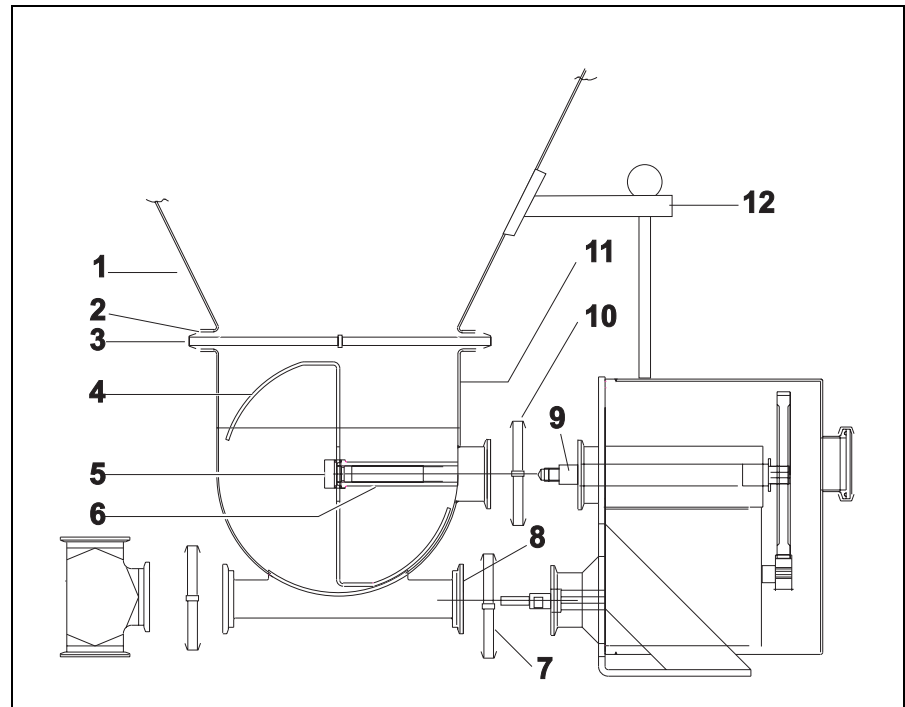

Fig. 7.8 Replacing the agitator hopper
5. Loosen the Tri-Clamps (Fig. 7.8/ 7, 10) and remove agitator hopper.
1. Before carrying out the installation ensure that all the parts are clean and the seals (Fig. 7.8/ 8, 9) are positioned correctly.
3. Tighten the Tri-Clamps (Fig. 7.8/ 7, 10).